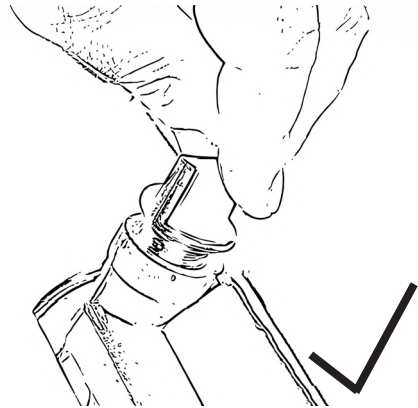

Figure 8
- Unscrew the oil filler plugs with connected dipstick, Fig. 8.